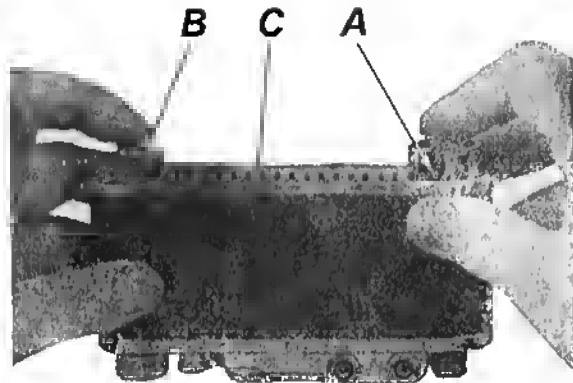

Fig. 11
4. With the camera lying on its top (fig. 11), hold cassette "A" with the right hand and takeup spool "B" with the left. insert both simultaneously into the camera. Slide the film into the channel "C". If the film cassette does not sit properly, turn the rewind knob a bit until the cassette fits properly.